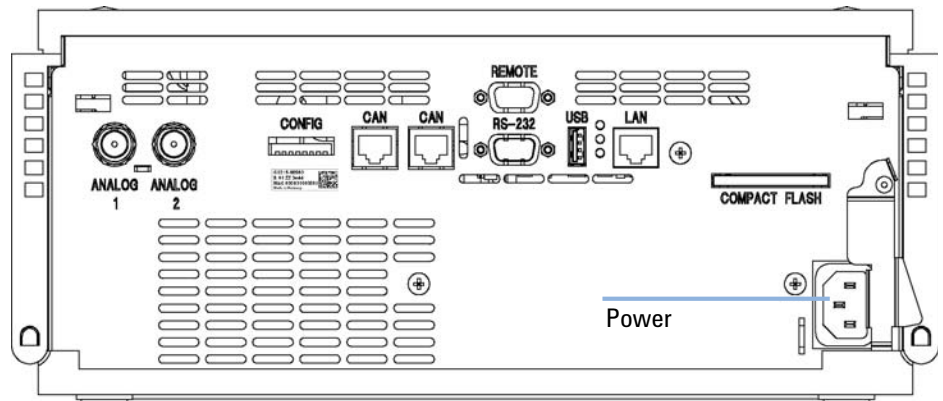

Figure 10 Rear View of Detector
- 1 Note the MAC address of the LAN interface (rear of the module, under the configuration switch, see Figure 10 on page 51). It's required for “LAN Configuration” on page 57.